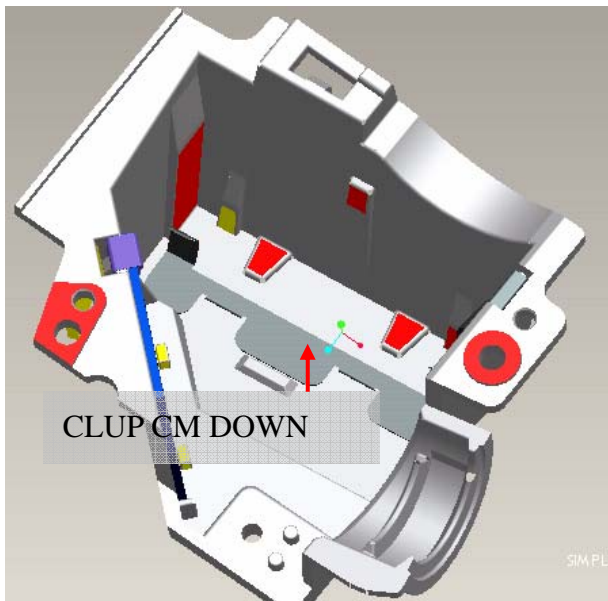

Fig. 6-3
- III. Insert Clip CM Side and Clip CM Bottom first (Fig. 6-3,6-5)